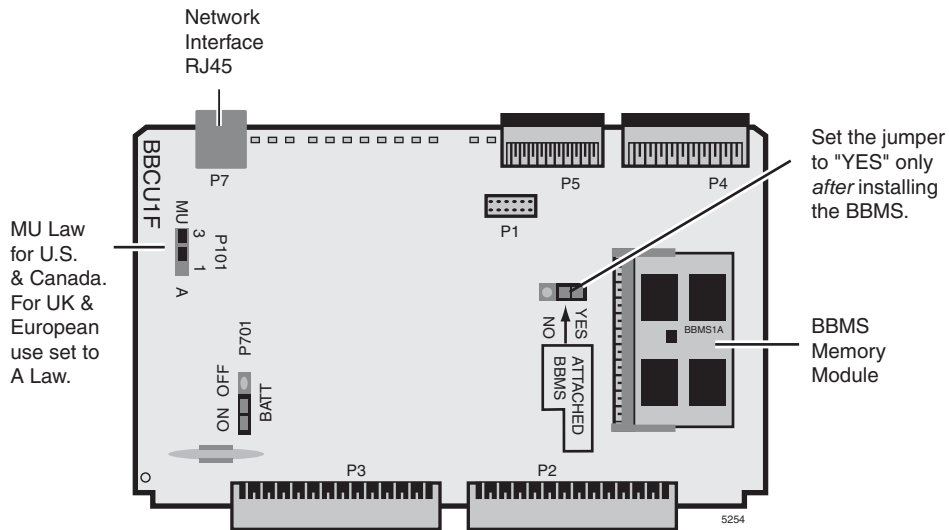
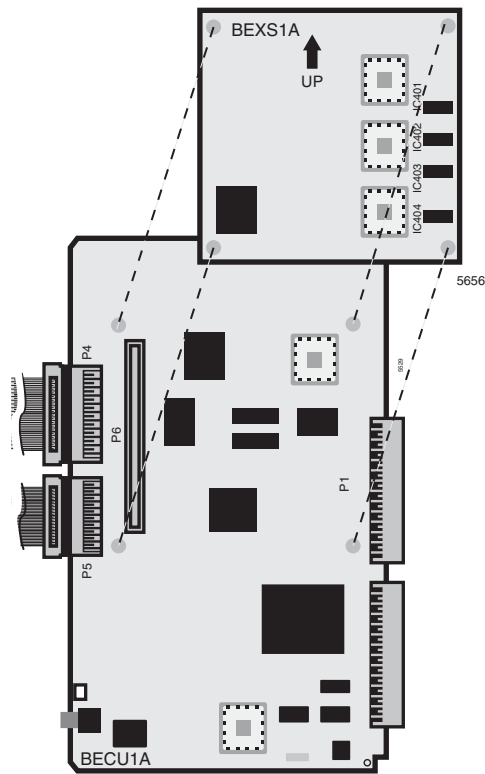

Figure 3-22 BBCU Processor PCB
Figure 3-24 Installing BEXS onto BECU
6. Install the BBMS onto the BBCU (see Figures 3-22 and 3-23). Install the BEXS onto the BECU (see Figures 3-24 and 3-26).